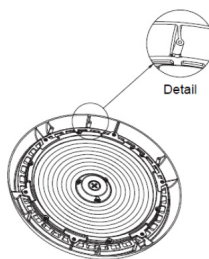

Fig. 21
1. Remove the 4 screws that were preinstalled on the High Bay. (Fig. 21)